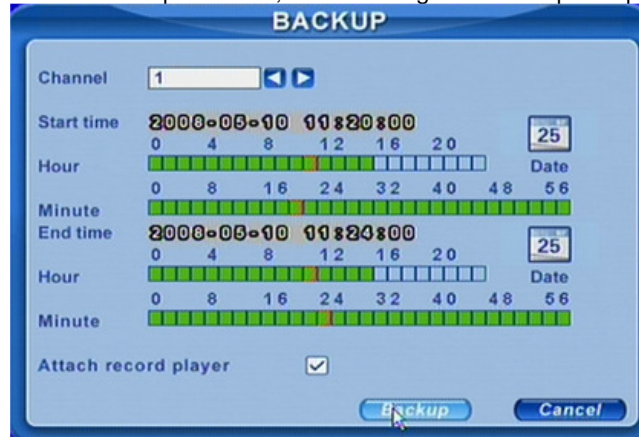

Fig 3.19 Backup Setup
STEP3 Enter Backup interface, shown as Fig 3.19 Backup Setup